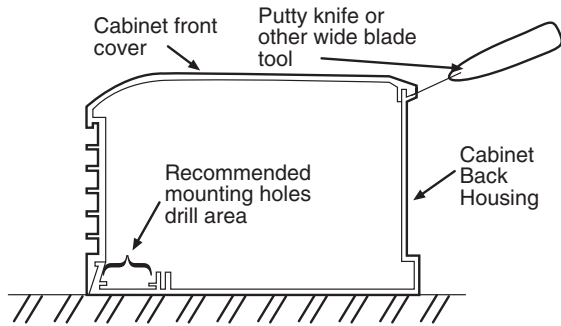

Fig. 1
16. To avoid damaging heater, do not use a screw driver to separate front cover from back housing. Use only a putty knife as shown, see Fig. 1
2. Remove front cover by laying the heater on its back and inserting a putty knife (or other thin, wide blade tool, 1" [25mm] wide minimum) approximately 6" (152mm) from the end of the heater and prying up as shown in Fig.1. This will spring the snap lock closure open. Repeat as required down the length of the heater until the front cover completely disengages from the heater back.
- Drill the required size mounting holes in the heater housing (See Fig. 1 for recommended mounting hole location.)
- Drill the required size mounting holes in all the heater housings. (See Fig. 1 for recommended holes in the heater housings.)